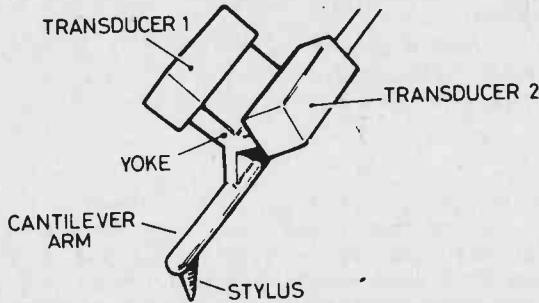

Fig. 11. Transferring stylus movement to transducers using a 'yoke'
A), but most designs make good use of both transistors by running each transistor with very little bias current, so saving power. The most popular circuit of this type is the totem-pole circuit, briefly referred to in Part 5 (Fig. 11). Let's look over that circuit again. In its simplest (and best) form, it uses one PNP and one NPN transistor connected as a pair of emitter followers, feeding the loudspeaker through a capacitor. With no signal input, the circuit is biased so that the voltage at the emitters is
The movement of the stylus has to be transferred to the transducers by using a yoke ( Fig. 11.) and for high quality replay, the mass of each of these moving parts must be very low. The stylus has to be able to return to its normal central position after each wave, so that some sort of return spring is needed, but for good reproduction this 'spring-back' must be as low as possible. In the language of the cartridge designer, the compliance must be high. The rms signal from most cartridges of the Hi-Fi type is around 2 mV at full belt.